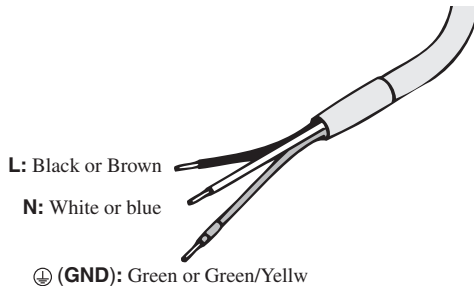

Fig.1-11 AC power code (AC power source side)
**CAUTION** • Inside the unit, protective circuits including input fuses are connected in order to meet the input terminal rating. When attaching a plug to the AC power code, refer to Fig.1-11 and confirm that the wires of the specified color are connected to the corresponding terminals (L, N, and ⊕(GND)). (This connection must be performed by qualified personnel.)